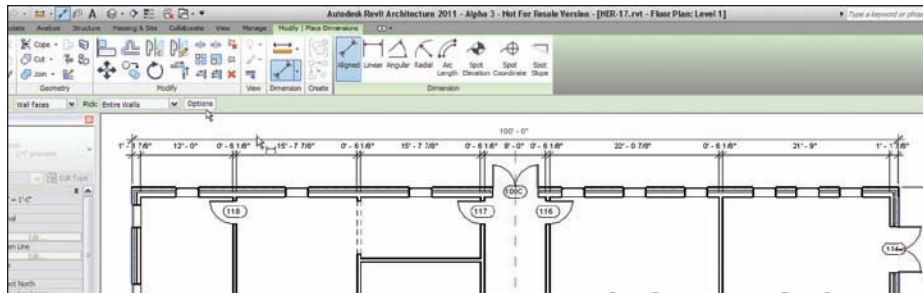

FIGURE 5.5 Adding a major dimension by turning off the Intersecting Walls choice in the Auto Dimension Options dialog
15. When you see the dimension snap, pick that point (see Figure 5.5).